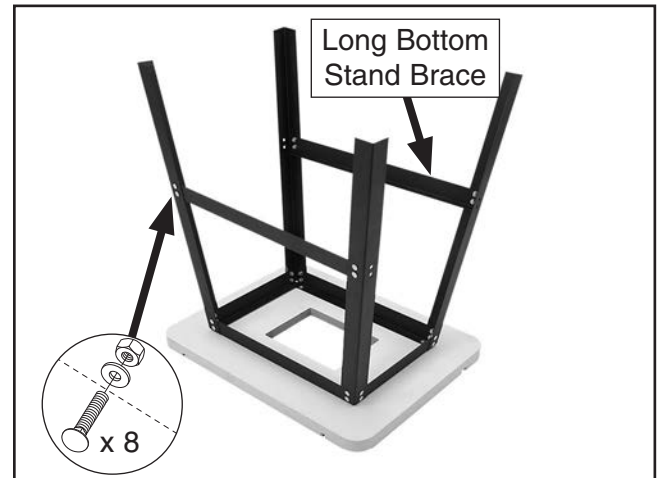

Figure 4. Long bottom stand braces attached.
3. Attach the long bottom stand braces to the legs with (8) M8-1.25 x 12 carriage bolts, 8mm flat washers, and M8-1.25 hex nuts, as shown in **Figure 4**.